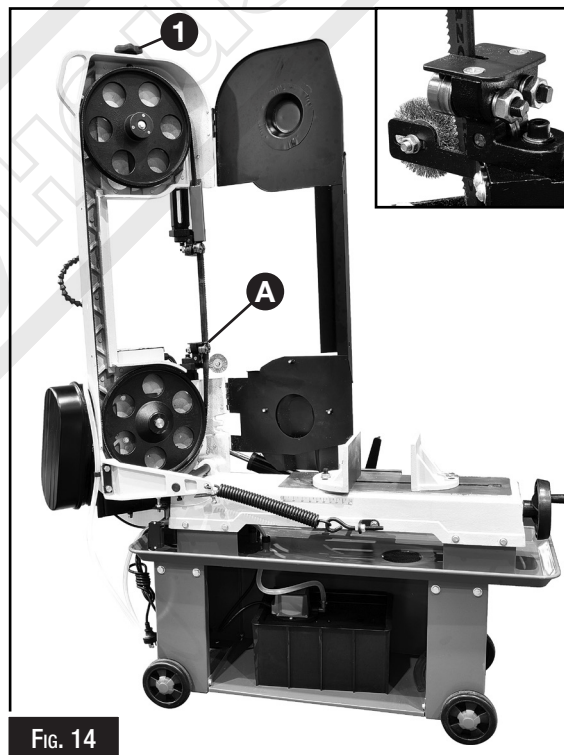

FIG. 14
5. Loosen blade tension by turning blade tension knob counter-clockwise (1, Fig. 14).
7. Install new blade by placing blade between blade guides first (Fig. 14). Make sure blade teeth face the same direction as indicated on the label found on the saw arm.
9. Turn blade tension knob (1, Fig. 14) clockwise to tension blade. Do not over tension. See section titled "Adjusting Blade Tension".